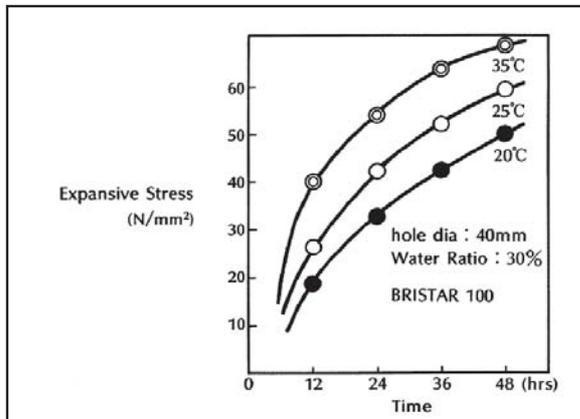
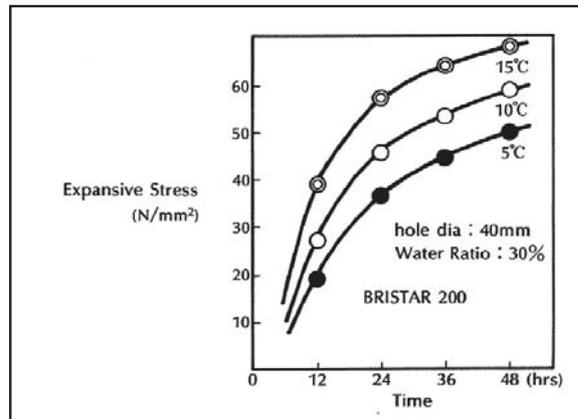

Fig.1: Changes in the expansive stress of BRISTAR100
Fig.2: Changes in the expansive stress of BRISTAR200
1)The expansive stress increases more than 30 N/mm²(Fig.1 & Fig.2). Generally, the compressive fracture stress of rock is 100 to 200 N/mm² and that of concrete is 15 to 50 N/mm². However, the tensile fracture stress is very small, for instance, it ranges from 4 to 7 N/mm² in rock and 1.5 to 3 N/mm² in concrete.